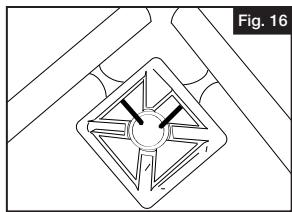

Fig. 16
- 1.** Dry fit the two Hand Rail lineals. The Hand Rail lineals to be joined should extend far enough to allow for scribing and final cutting (Fig. 16).